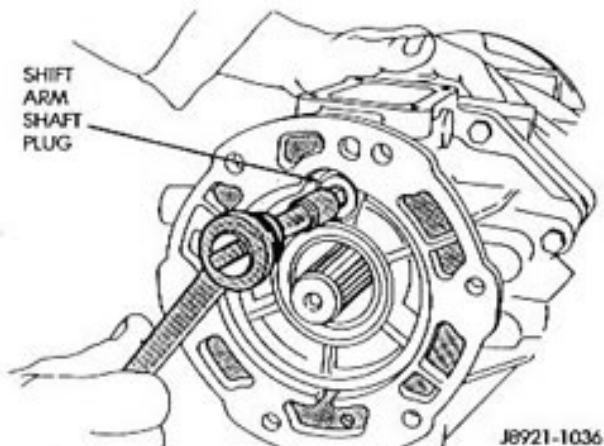

Fig. 6 Removing/Installing Shift Lever Shaft Plug
(7) Remove the shift arm shaft plug (Fig. 6).